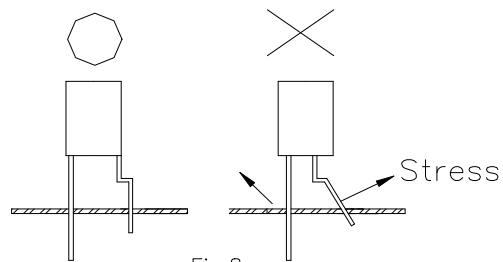

Fig.8
- ② Forming lead should be carried out prior to soldering and never during or after soldering.
③ Form the lead to ensure alignment between the leads and the hole on board, so that stress against the LED is prevented. (Fig.8)